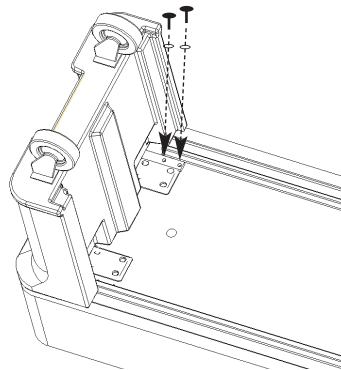

Figure 2
Step 4: Line up two holes in the End Shelf Bracket with holes on underside of basin (see Figure 2).
Step 5: Using the Hex Head Bolts and Washers shipped with the End Shelf, loosely attach End Shelf Bracket to Basin. Repeat with the next End Shelf Bracket (see Figure 2).